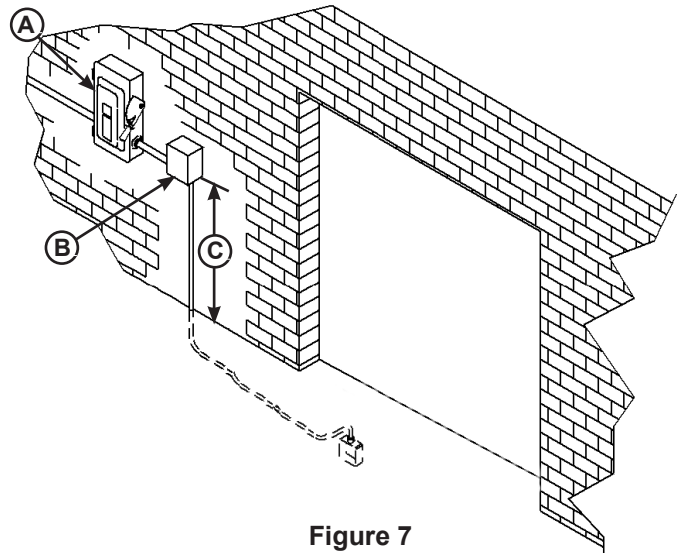

Figure 7
1. For wall-mounted controls, mount the push-button control panel (B) so bottom of control panel-to-dock floor distance (C) is 48 in. (1219 mm). See Figure 7.
2. Install electrical disconnect panel (A) if not already installed. Disconnect panel supplied by others.